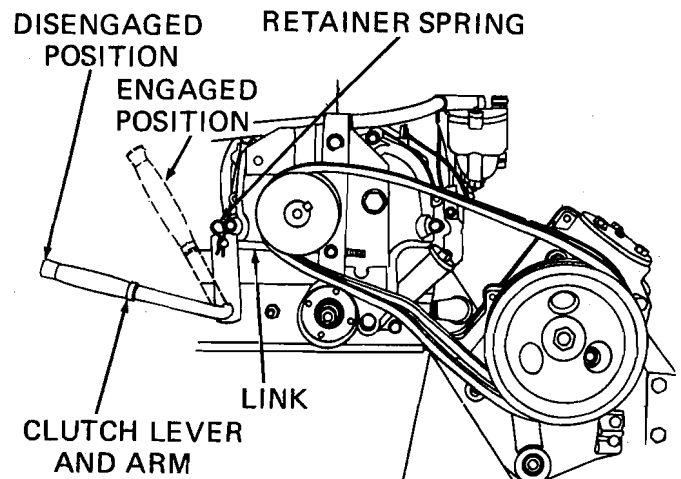

FIG. 14 BELT GUARD REMOVED FOR ILLUSTRATION
2. Lift Spader with 3-point hitch. Be sure Spader clutch lever is disengaged (lever pulled down). Refer to Figure 14.
5. Engage Spader clutch lever (lever pulled up); refer to Figure 14. Then disengage several times to check the clutching action of the belts. If it is not clutching properly, see "Belt Adjustment," page 8.